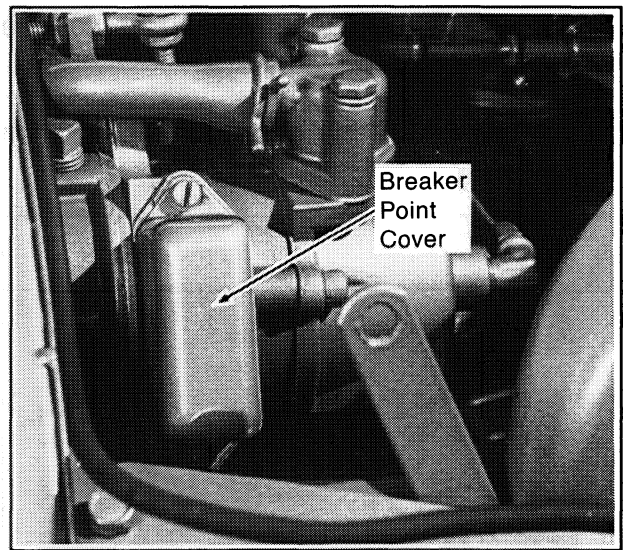

Figure 3-6. Breaker Point Cover
3. Remove the breaker point cover. See Figure 3-6.